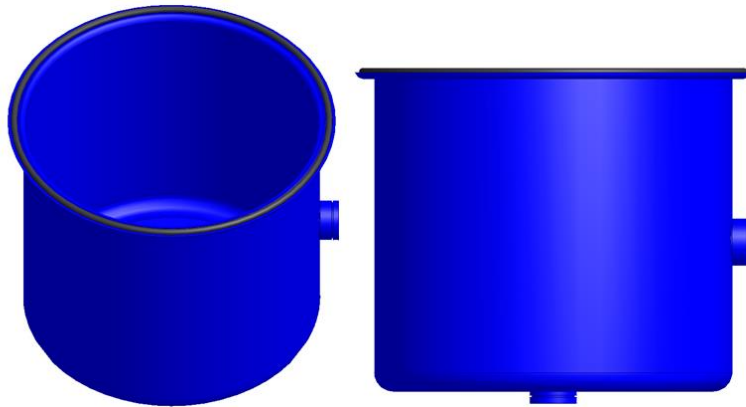

Figure C.5.1: Correct placement of O-ring in O-ring groove.
- B. Hemisphere O-ring must rest evenly along canister base O-ring groove, see figure C.5.1.